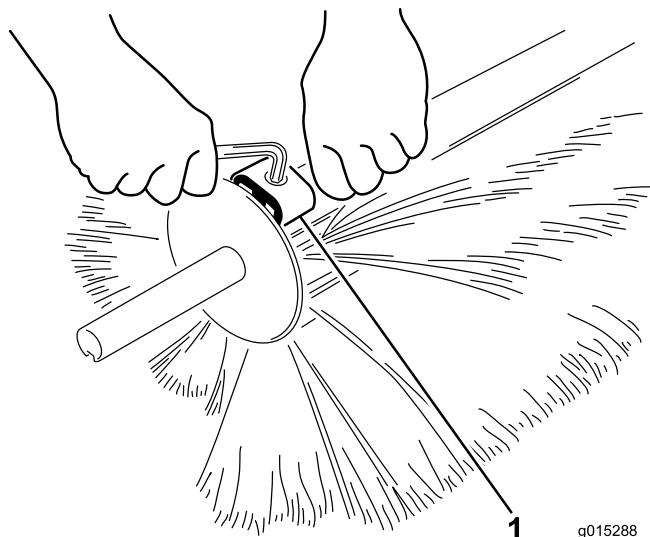

Figure 29
2. Loosen the clamps with an Allen wrench and remove it from the brush halves (Figure 29).